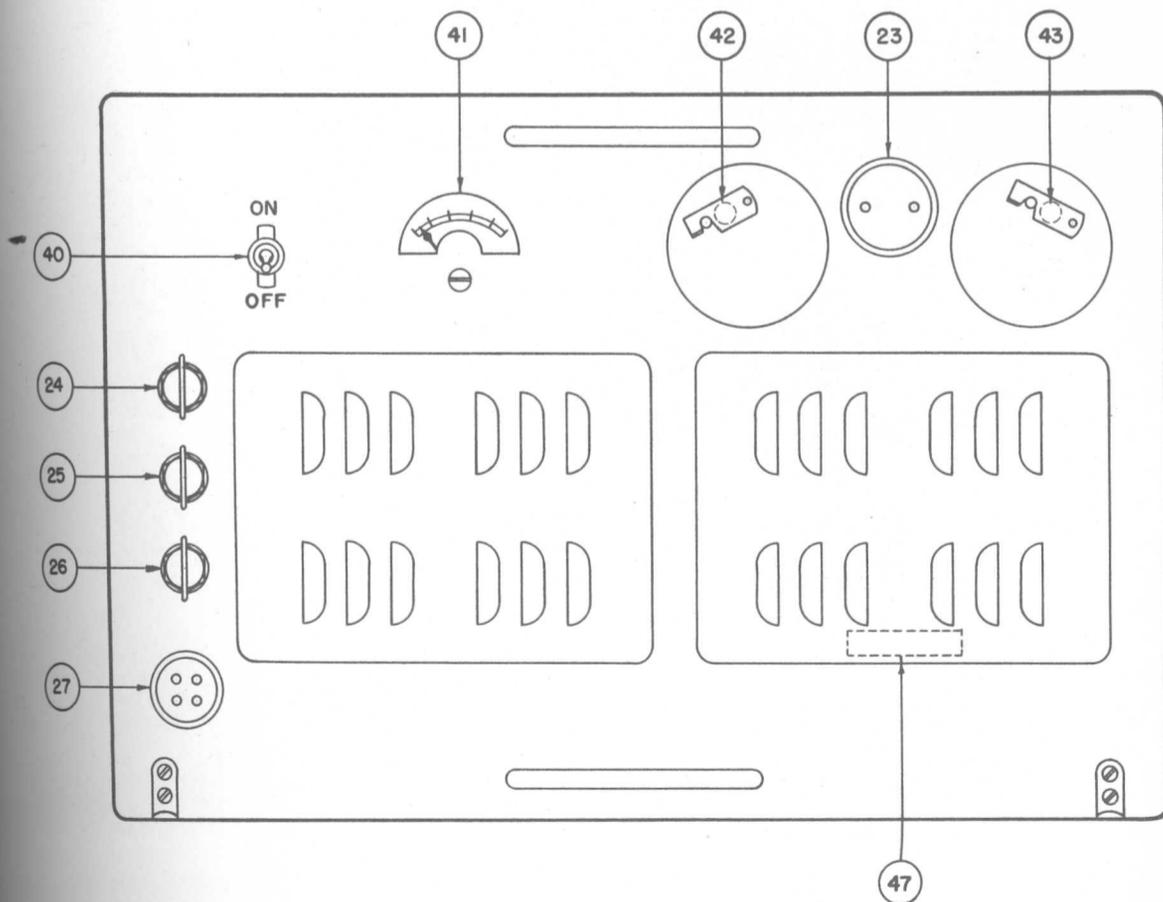
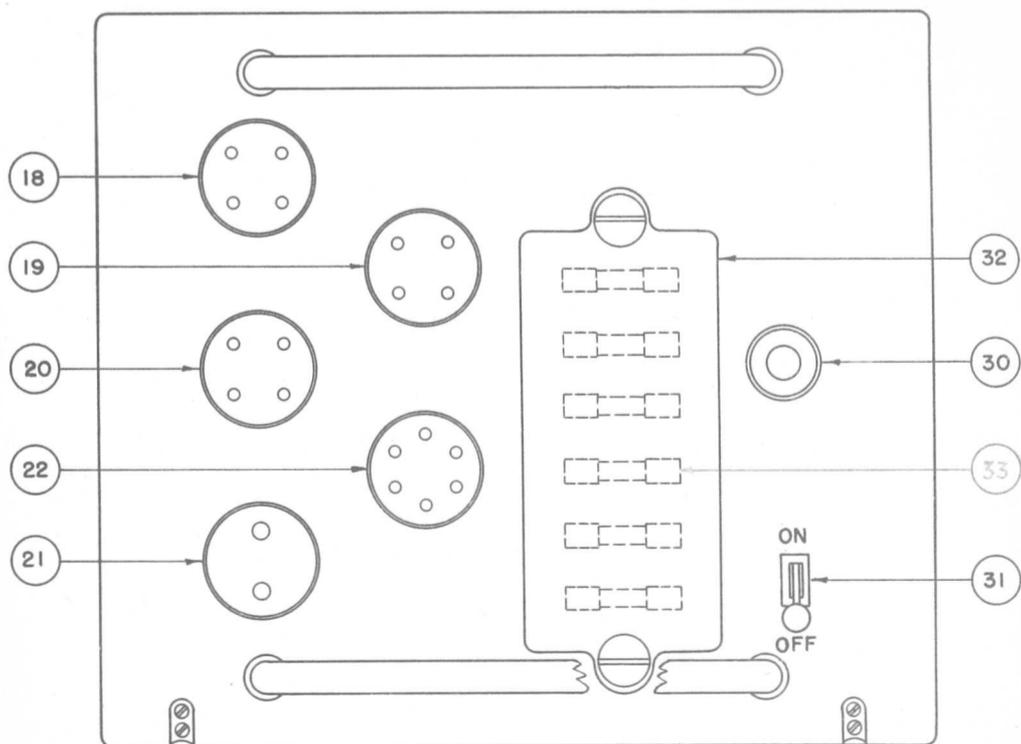

Figure 1 — Radio Transmitter BC-702-A — Front View
Figure 4 - Control Panel BC-703-A - Front View
STEP 1: Check that high voltage switch (40) is turned to "OFF" position. (See Fig. 1).
STEP 5: Allow at least one minute after turning on power switch (31) for the tubes to warm up before turning on the high voltage switch (40) for the plate supply of the transmitting tubes.
STEP 6: Throw high voltage switch (40) to ON position.
STEP 7: Immediately after throwing Switch (40) to ON position check the amount of plate current indicated on Meter (41). (See Fig. 1). If the
1. Turn off the high voltage switch (40) (See Fig. 1).
3. Turn off the power switch (31) (See Fig. 4).
NOTE ON STEP 3. — If Pilot Light (30) fails to light when Power Switch (31) is turned ON: (a) the pilot light may be burned out, or (b) the DC fuse inside Fuse Panel (33) (See Fig. 4) may be burned out. If it is determined that the pilot light is burned out, replacement may be made as soon as convenient, since the operation of the equipment will be unaffected. Refer to Paragraph 5 for information concerning checking and replacement of fuses.
NOTE ON STEP 4. — If Transmitter Blower does not operate when the Pilot Light is lighted, (Power switch ON) it is an indication that (a) there is a loose connection in the plug, or, (b) broken or loose wire connection, or, (c) defective blower motor. Make sure that Power plugs (18), (19), (20) and (27) (See Fig. 1 and Fig. 4) are screwed on tightly. If the plugs are not at fault, the possible defects (b) and (c) should be checked by a specially trained radio mechanic.
If any of the major units fail to operate (tubes not lighting or warming up, blower not operating, pilot light not lighted, etc.), the cause may be due to a blown fuse. (See also Paragraph 5f-2 below). Behind the Fuse Cover (32) (See Fig. 4) is a fuse block carrying six fuses. The top three fuses are